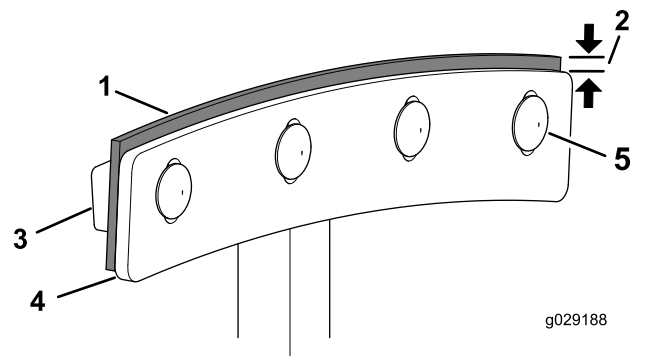

Figure 45
4. Loosen the carriage bolts and flanged locknuts that secure the paddle blade and wiper to the paddle (Figure 45).